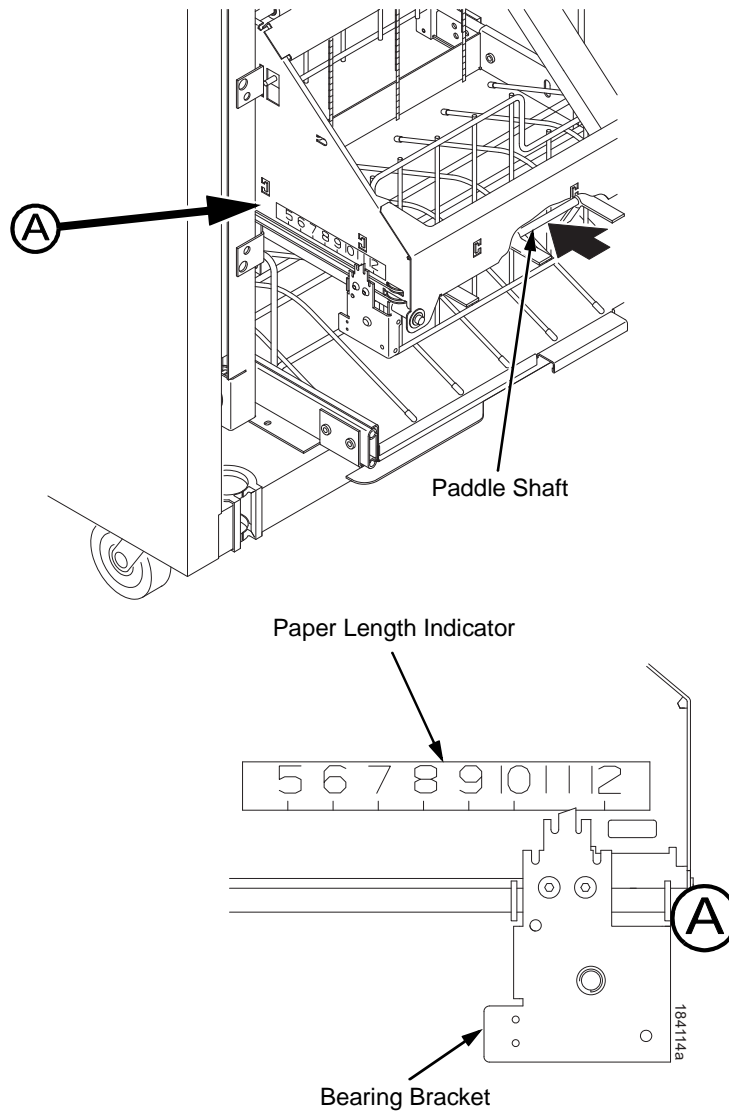

Figure 39. The Paper Length Indicator
5. Push or pull the paddle shaft toward the front or the rear of the printer to set the desired paper length. Align the indicator notch on the bearing bracket with the paper length indicator. The power stacker can handle paper or forms from 5 to 12 inches (12.7 to 30.5 cm) long. (Figure 39.)